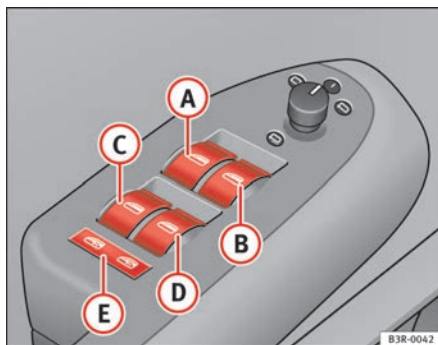

Fig. 78 Detail of the driver's door: Control switches
- (A) Switch ⇒ fig. 78 for the driver's door window
- (B) Switch for the front passenger's door window.
The safety switch ⇒ page 106, fig. 78  can deactivate the rear door switches. The windows can only be operated from the rear when the safety switch is pressed in.